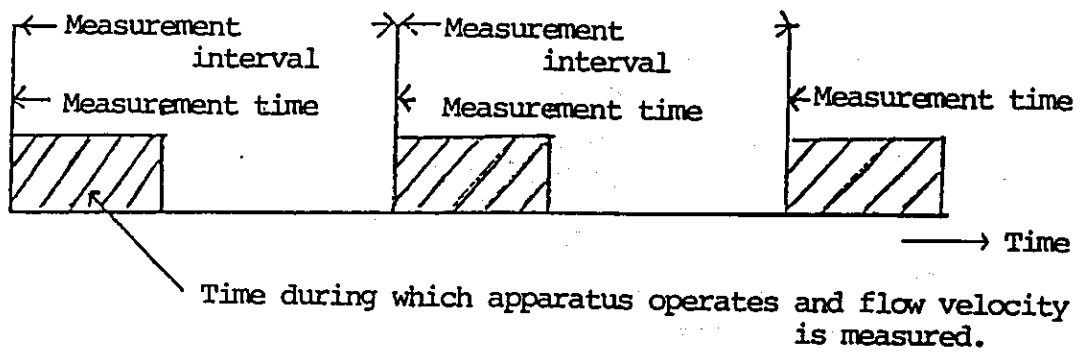

Fig. 7-3 Measurement time chart
Measurement interval and measurement time are defined by the time chart of Fig. 7-3. Set measurement interval with (10) INTERVAL setting switch and measurement time with (11) MEASUREMENT setting switch to a desired value of 1 to 99 (min).